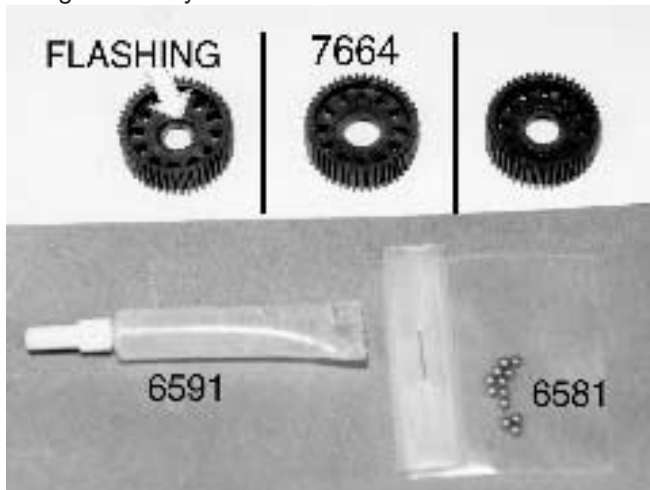

Fig. 43
Fig. 43 (1) Open the transmission bag; inside you will find bags marked A, B, C, D, E & F. You will also find a gear cover bag, the motor plate and a couple of small tubes of lube. **(2)** Go ahead and locate bag A, the diff assembly. **(3)** From bag A you will want to remove the #7664 diff gear and the small bag containing the twelve #6581 3/32" carbide diff balls (these are the larger of the two ball sizes). These carbide balls are the best available. They will outlast the diff drive rings at least ten times (if the diff is kept clean and lubed).